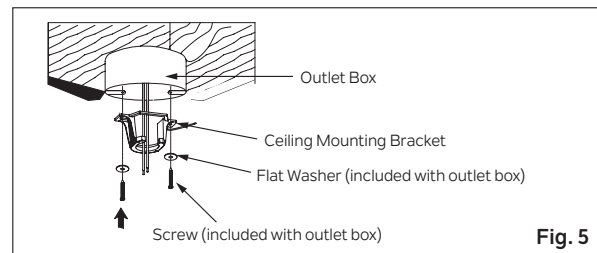

Fig. 5
Step 1. Before attaching fan to outlet box (not included), ensure the outlet box is securely fastened to at least two points to a structural ceiling member (a loose box will cause the fan to wobble). Pass the 120 volt supply wires from the ceiling outlet box through the center of the ceiling mounting bracket. Install mounting bracket to outlet box in ceiling using the screws and washers included with the outlet box. (Fig. 5)